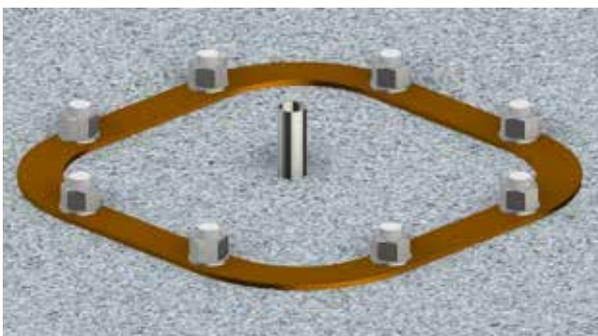

fig.22
4. If required, prepare insertion of a pipe in the plinth adequate for passage of the electrical cable to supply the jib crane (fig. 22).